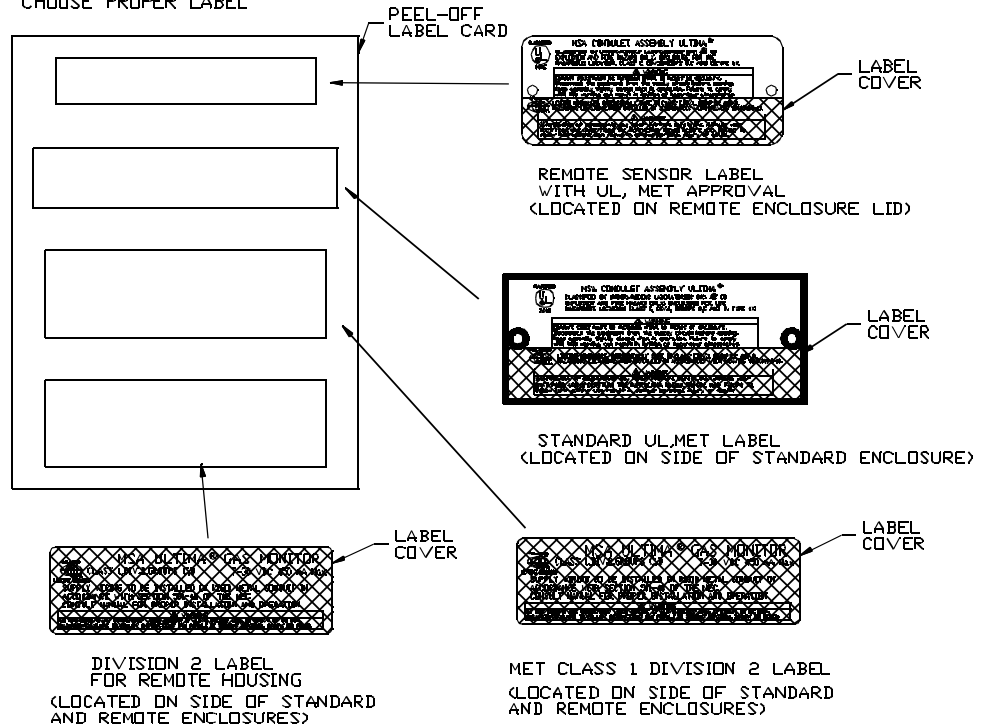

Figure 1. Label Details
1. Identify and clean the approval markings (see examples in FIGURE 1).
If the metallic Approvals Nameplate includes an MET logo, the Intrinsic Safety portion of the label must be permanently obliterated. Use the label cover in the Kit. If no logo is shown, no obliterating is necessary. If any adhesive MET Class 1, Division 2 Label exists, it must be obliterated using the blanking label cover. Apply label covers as shown in FIGURE 1.